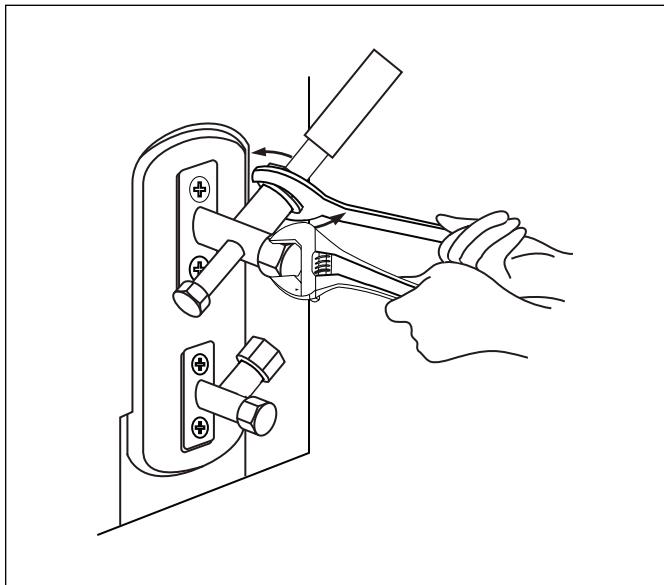

Figure 35
- Using a wrench, hold the body of the valve. Do not hold the nut that seals the service valve. See Figure 35.